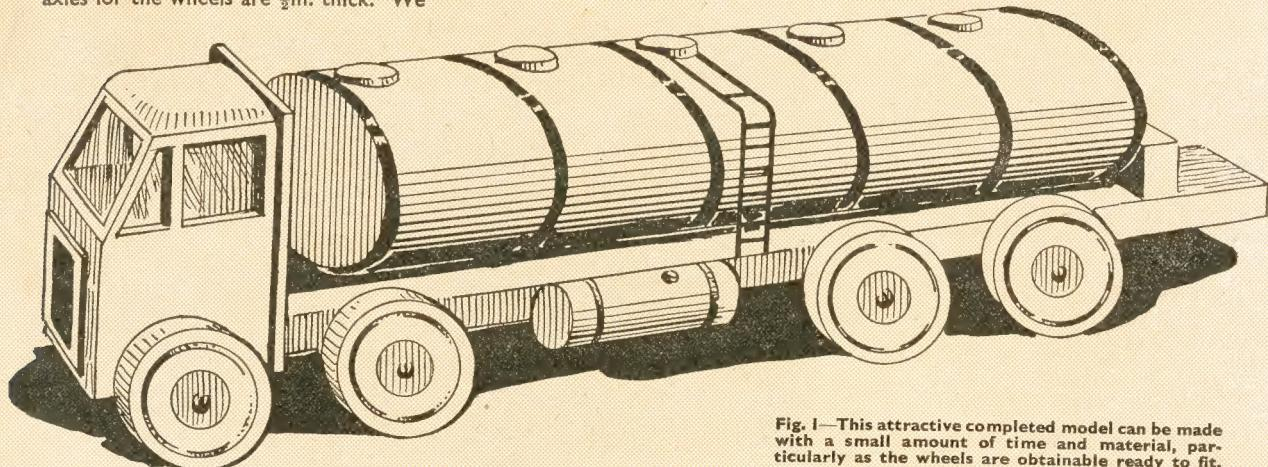

Fig. 1—This attractive completed model can be made with a small amount of time and material, particularly as the wheels are obtainable ready to fit.
The roof of the cabin is next made, and a piece of ½in. wood measuring 3in. by 1½in. is wanted for this. The squared up piece, just as it leaves the saw may be glued in place on the cabin sides and to the back (C). The shaping is afterwards done on three edges as seen in Figs 1 and 2. If preferred, however, the shaping could be done before the roof is glued on. Add one or two small gluing blocks where possible to add to the strength of the joints; they should be put along inside where not particularly seen.